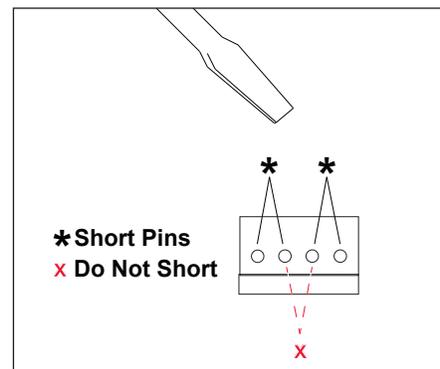

Figure 49. Test without a PSB by shorting either pair of pins.
- If PSBs are not installed, plug a test PSB into the respective headers or use the header shorting method on the switching modules to make sure that the products are currently selected to play (See Figure 49 on page 30).